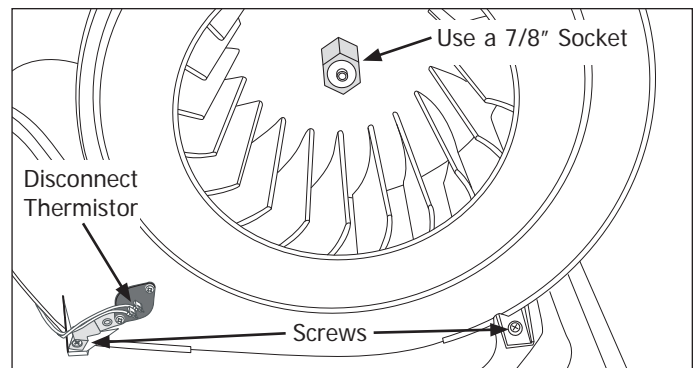

Figure 4-34.
3. Using a 7/8" extended socket and while holding the motor shaft from turning, loosen the blower wheel from the shaft by turning clockwise. Spin blower wheel clockwise until free of motor shaft. (See Figure 4-34)
7. Disconnect blower outlet thermistor from wire harness. Then, using a #2 square bit screwdriver, extract the two screws securing blower assembly to the unit base. (See Figure 4-34 )